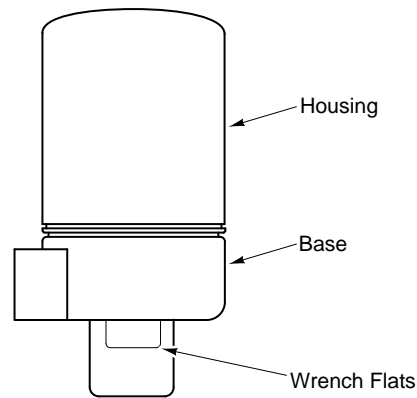

Figure-4 Housing and Base Location.
**Caution:** Do not twist or exert any force on the actuator housing during installation. Either turn the base by hand or, if necessary, use a 1-5/8" open-ended wrench (TOOL-37) on the flats provided on the actuator base or the valve body mounting nut. Refer to Figure-4 .